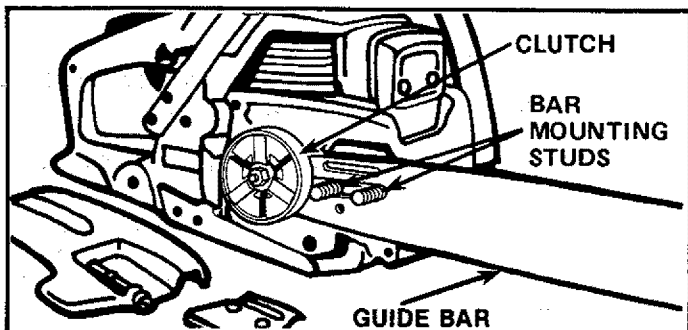

Figure 5
- b. Mount the Guide Bar with the slotted end over the bar mounting studs. Figure 5.